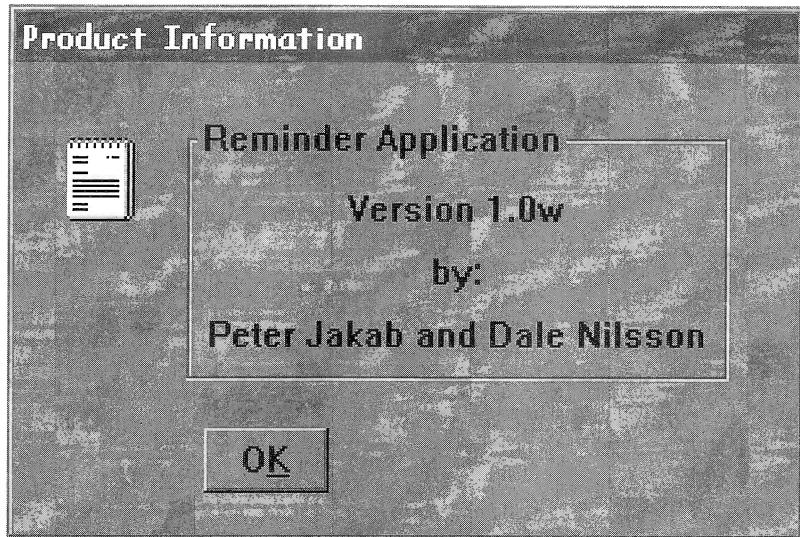

Figure 129: Product Information dialog
The Product Information window is called a **secondary window** as shown in Figure 129. Secondary windows may or may not be shown during any one session while running the program. It is therefore good practice to dynamically create these windows as a result of some user initiated action like pressing a button or double-clicking on a list item. When secondary windows are used in this fashion, they are built as a separate reusable part and created on demand at runtime. Since this book has not yet covered how to dynamically create and al-
- ☐ In the Bitmap group box enter **bitmaps** in the **DLL name** entry field and **7** in the **Resource id** entry field. This identifies the icon shown in Figure 129. This icon is also used as the icon on the system menu.
Directly edit the static text controls and the push button text to look like Figure 129.
Open the settings notebook for the **frmProductInfo** window, select the Styles page. To make the window look like Figure 129 choose the Style settings in Table 9.